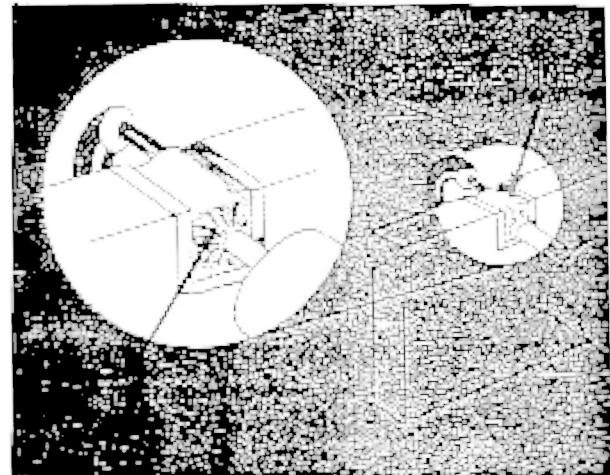

Fig. 4-3. A slight fillet of solder is formed around the wire when it is applied correctly.
4. Apply one corner of the tip to the wire where you wish to solder (see Fig. 4-3).
6. Do not attempt to fill the notch on the wire with solder; instead, apply only enough solder to cover the wires adequately, and to form a slight fillet on the wire as shown in Fig. 4-3.